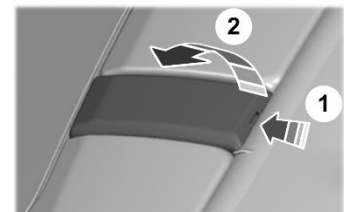

Figure 1
- 1) Using a trim tool (or flathead screw driver) press on the tab to remove the accessory ready mount covers above the windshield on both sides (Fig.1).
- 4) Reinstall the accessory ready mount covers. (Fig.1)